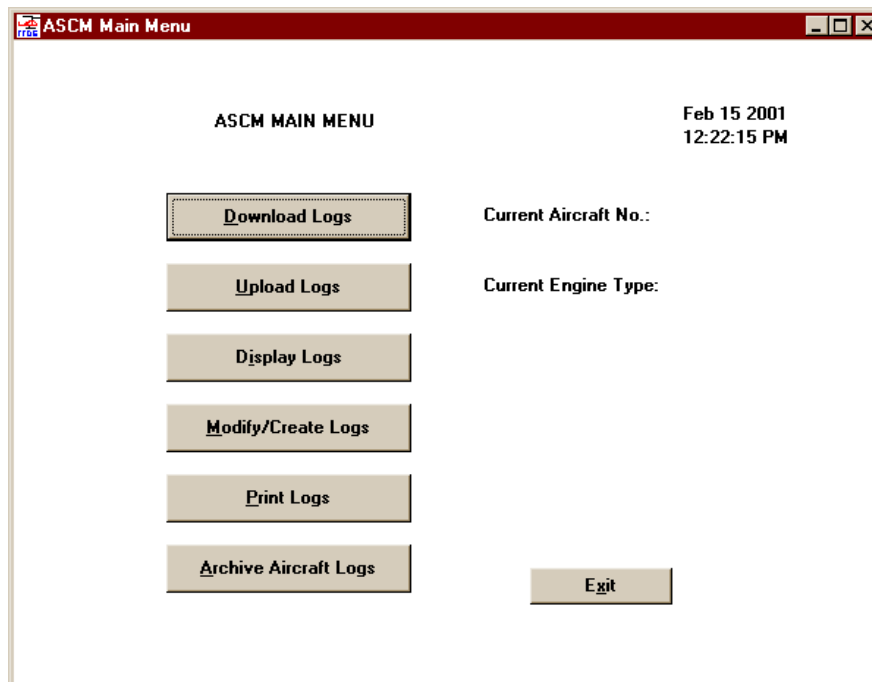

Figure 16. ASCM Main Menu Screen
3. Click on the "**Download Logs**" control button (refer to Figure 16).
2. Click on the "**ASCM Menus**" control button (refer to Figure 8) then click on the "**Upload Logs**" control button (refer to Figure 16).
2. Click on the **"Display Logs"** control button (refer to Figure 16).